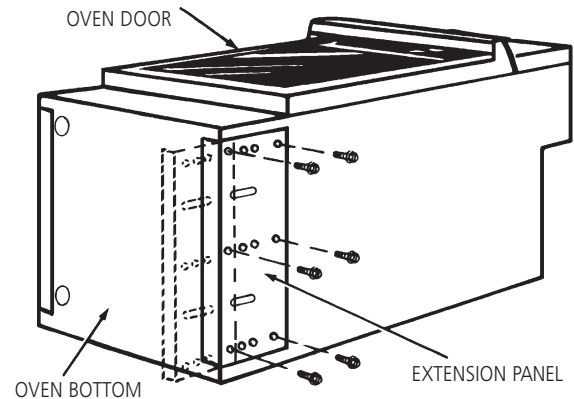

Figure 3
1. Lay oven on its back (see figure 3).